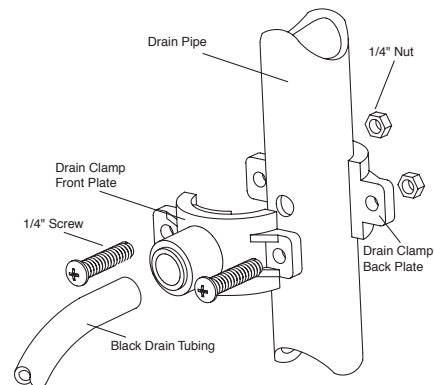

Figure 4
•Refer to Fig. 4. Insert the tubing into the Drain Clamp. Make sure the tubing is pressed all the way in to create a pressure tight connection.